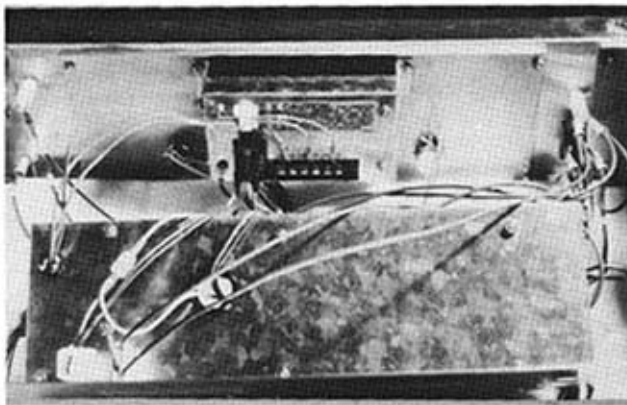

FIG. 1
2. Remove the six (6) screws securing top to side panels and remove top. Save screws for reuse.
3. Remove the two (2) screws securing power board bracket to escutcheon. Save screws for reuse.
4. Carefully lay power board bracket back from escutcheon (See Figure 1).
6. Remove the four (4) hex nuts securing defective circuit board and cover to escutcheon and save for reuse.